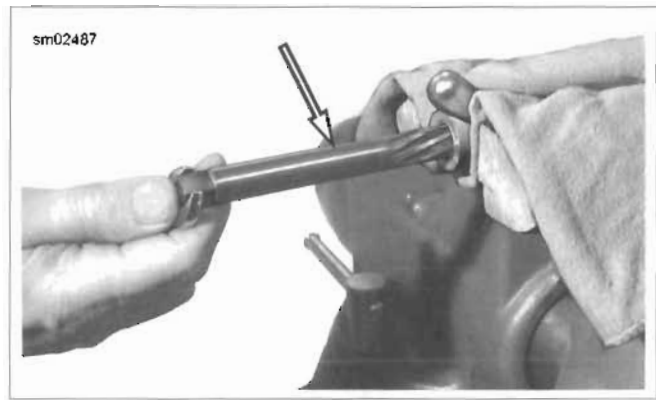

Figure 3-37. Ream Bushing
- a. See Figure 3-37. Lock rocker arm in a vise using brass jaw inserts or shop towels to prevent casting damage. Note that old bushing on drive side of reamer as pilot.